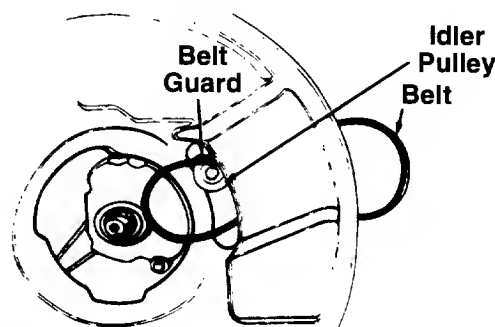

FIGURE 18.
- Remove the belt from between the idler pulley and the belt guard on the idler pulley bracket. See figure 18.
- Push the idler pulley up out of the way as shown in figure 18.